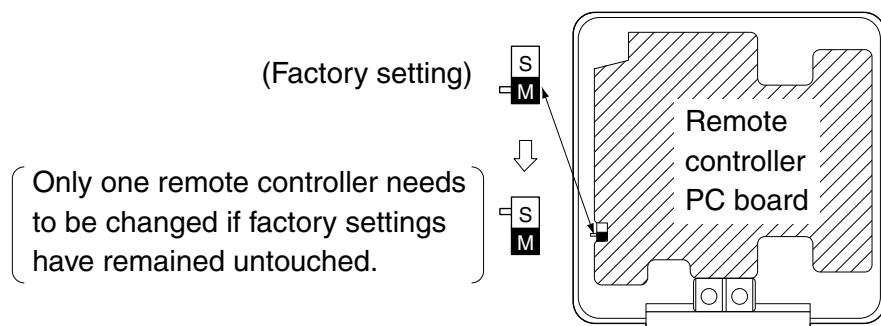

Fig. 32
(2) Turn the **main/sub changeover** switch on one of the two remote controller PC boards to “S”. (Leave the switch of the other remote controller set to “M”.) **(Refer to Fig. 32)**